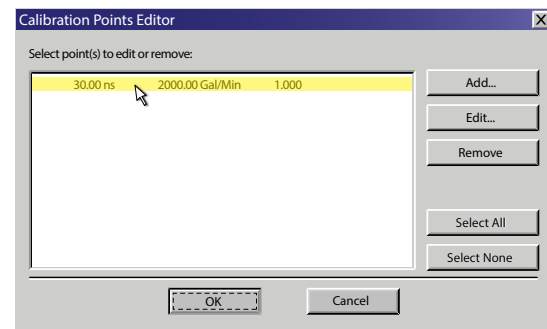

Figure 59: Calibration page 3 of 3
5. If a calibration point is displayed in *Calibration Points Editor*, record the information, then highlight and click **Remove**. See *Figure 59*.